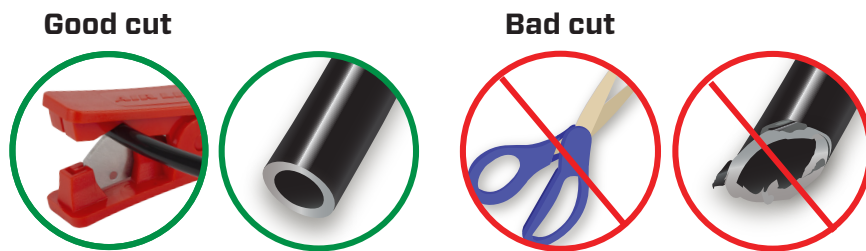

Fig. 1
Use a hose cutter and make clean, square cuts (Fig. 1). Do not use scissors or wire cutters because these tools will deform the air line. Do not cut the lines at an angle. The minimum bend radius for 1/4" air line is 1" (25mm). Air lines are to be installed straight into fittings. Inspect the air line for scratches that run lengthwise. Contact Air Lift customer service if the air line is damaged.
2. Make clean, square cuts with a hose cutter (See Fig. 1 in the Cutting Air Lines section). Do not use scissors or wire cutters.
3. Use zip ties (F) to secure the air line to fixed points along the chassis. Do not pinch or kink the air line. The minimum bend radius for the air line is 1" (25mm). Leave at least 2" (50mm) of slack in the air line to allow for any movement that might pull on the air line.